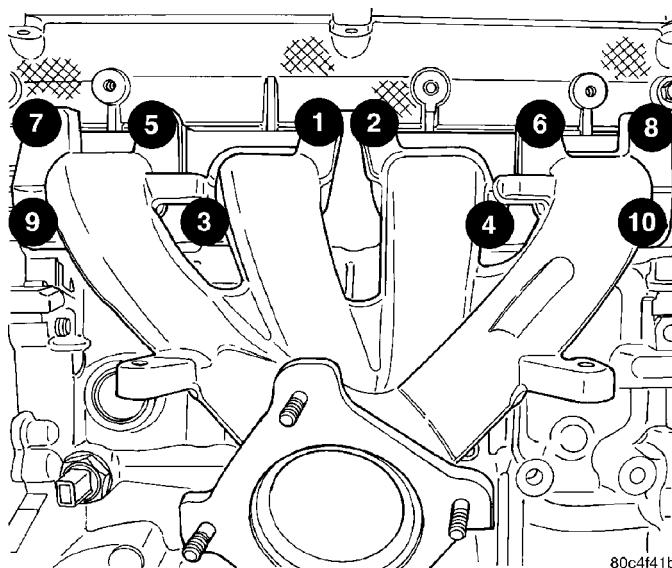

Fig. 113 Exhaust Manifold Tightening Sequence
(1) Install exhaust manifold with a new gasket. Tighten attaching nuts in the sequence shown in (Fig. 113) to 19 N·m (170 in. lbs.).
(2) Attach exhaust pipe to exhaust manifold and tighten fasteners to 37 N·m (27 ft. lbs.).
(3) Install and connect the oxygen sensor. (Refer to 14 - FUEL SYSTEM/FUEL INJECTION/O2 SENSOR - COMPONENT LOCATION)